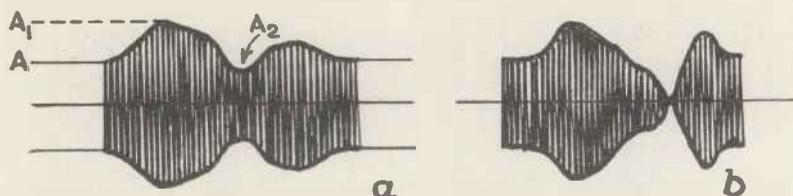
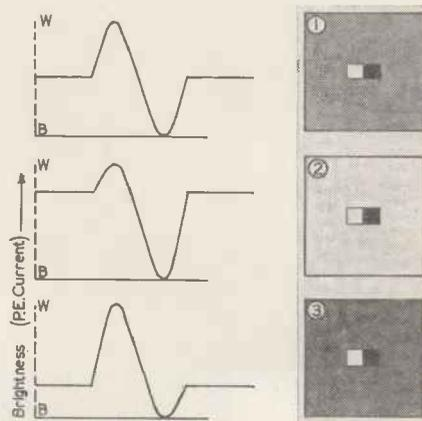

Fig. 1. An ordinary modulated carrier wave (a) and a carrier wave modulated 100 per cent (b).
Fig. 2. A simple black and white pattern scanned with different brightness of background showing change in photo cell current.
In the course of experimental work two of these methods were found to be of special interest. The first of them will be explained by the following in conjunction with Figs. 1 and 2 and referred to briefly as the "flash light" method; the second is based on the optical combination of two supersonic cells (Figs. 3, 4 and 5) and represents the "two-cell" method.
In Fig. 1 a wave train, produced by the picture signals of a whole line, and existing in the supersonic cell (A) is illuminated for a very short time by light passing through the Kerr cell (B). The picture lines are each in turn projected on to the screen by flashes from the Kerr cell. The efficiency of this arrangement may be enormously increased by employing a high pressure mercury lamp flashing in sympathy with the Kerr cell. In the ideal case when the light flashes only for the duration of a picture element, the Kerr cell is unnecessary.
A mirror oscilloscope placed at the bar D (Fig. 2)† and synchronously oscillating with the line frequency may be used to compensate the movement of the line across the screen. This is analogous to the "follow-up" principle used by Scophony with the high speed polygon. The amount of compensation is not limited in the case of the tuned oscillating mirror but is variable since the amplitude of swing of the mirror may be varied. Moreover, any instability in synchronism is visible not as a wobbling or slipping of the picture but only as a lack of definition. Although the oscillation of the mirror is sinusoidal, only that portion of its swing where its velocity is sensibly constant (i.e., approximating to its mean position) is used in conjunction with a "flashing" light. Full definition may still be maintained even with a light source flashing for a duration of seven or eight microseconds.
Fig. 1.—This drawing shows the scheme for the new stroboscopic (wave and slot) television method. The Kerr cell B, acting as a shutter, projects an immobilised image of the wave-train in A by a flash of illumination at the end of each line period.
Fig. 2.—The momentary illumination can be effected with the light source (C) itself, the whole of the light energy being concentrated in a short time interval, determining the rough definition. By the small oscillatory movement of D the full definition is attained.
The light efficiency of the two cell method (Fig. 3) is inversely proportional to the number of elements in a line. This can be overcome with the flash light method, but the research work concerned with the development of the corresponding light sources for the simple method of Fig. 1 meets with certain difficulties. To get the full sharpness with this simple method the duration of illumination must be restricted to a fraction of a microsecond. The design of the present apparatus is therefore based on the modified form, Fig. 2, where neither the light efficiency nor the sharpness is dependent on the number of lines (definition) used.
We can then make the height of the carrier proportional to the brightness of the scene, so that maximum height will give maximum brightness and each tone of the picture is associated with a definite value of carrier amplitude. This is the system which is known as "D.C. working" and to understand it better we can take the simple case of a black and a white square outlined against a background of varying shade, as in Fig. 2.
In each case we have a pulse rising or falling from a steady value, and we can represent this as an alternating current superimposed on a direct current, the value of the direct current corresponding to the brightness of the background. The alternating current conveys the variations in the individual parts of the picture: the direct current conveys the intensity of illumination of the scene. Without it there would be nothing by which we could convey the brightness of the scene as a whole, although the individual variations in the scene could be transmitted as an ordinary modulation of the carrier wave as Fig. 1.
Fig. 2 the variations will be applied to the grid, but the D.C. potential will not.